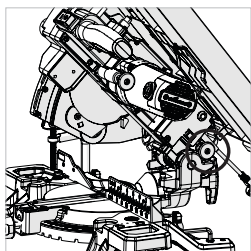

Fig. 5
- Pull out the cutting head latching pin and allow the cutting head to rise to its upmost position. (Fig. 5)
- Pull out the cutting head latching pin and allow the cutting head to rise to its upmost position. **(Fig. 5)**